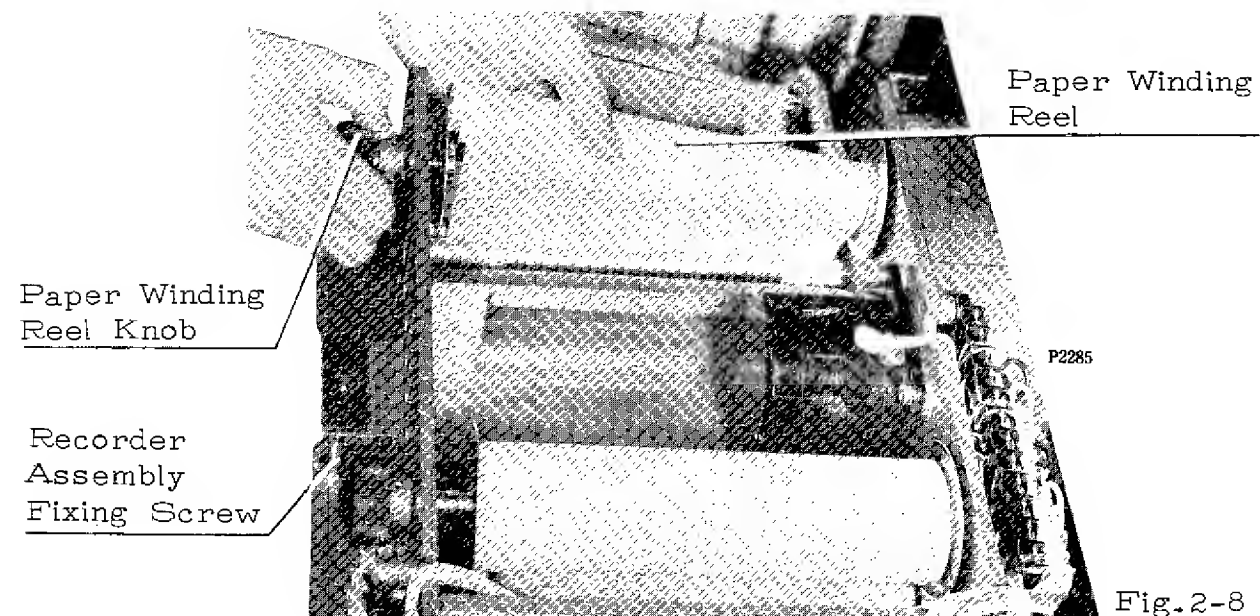

Fig.2-8
9. Put an end of the new paper roll into the slot of the paper winding reel, then wind one or two turns of the paper on the reel with care so that the paper may be set in the center of the reel. See Fig.2-8.
10. Reset the paper winding reel in the recorder assembly with the reel knob pulled outside. See Fig.2-8. Confirm that the reel is secured.